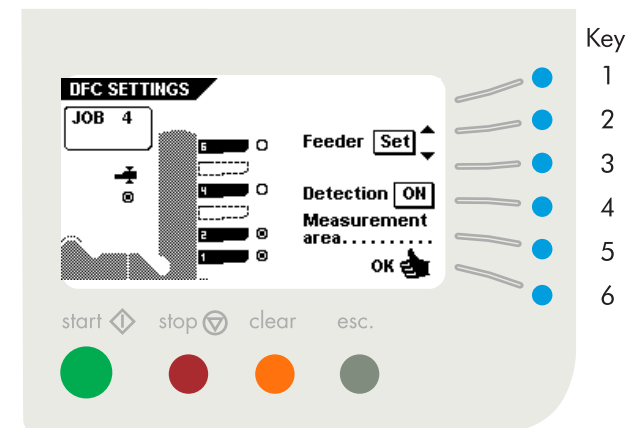

Fig. 47
When the “DFC settings” menu is selected and confirmed (key 6) in the “job settings” menu, the display shows the screen as shown in fig. 47. This menu shows the following functions:
- select the required feeder and/or the document set on the inserter (key 2 or 3).
- set the Double Feed Control/thickness detection on or off (key 4).
- set the thickness detection measurement area (key 5).
- confirm the settings by pressing “OK” (key 6) which will get you back to the “job settings” menu.